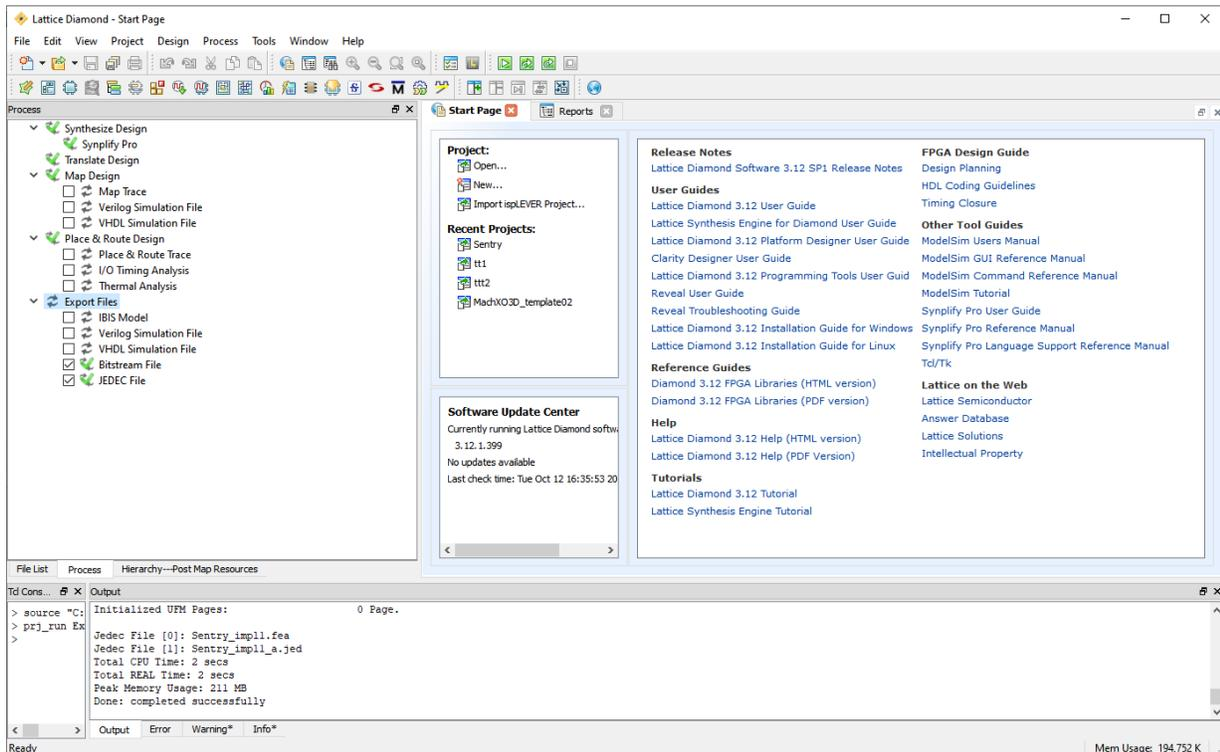

Figure 2.105. Generate Programming Files
- b. Switch to **Process** view of the Diamond project (Figure 2.105). Make sure at least one programming file (bitstream File or JEDEC file) is selected in the **Export Files** section. Available programming files can be different upon specific device included.